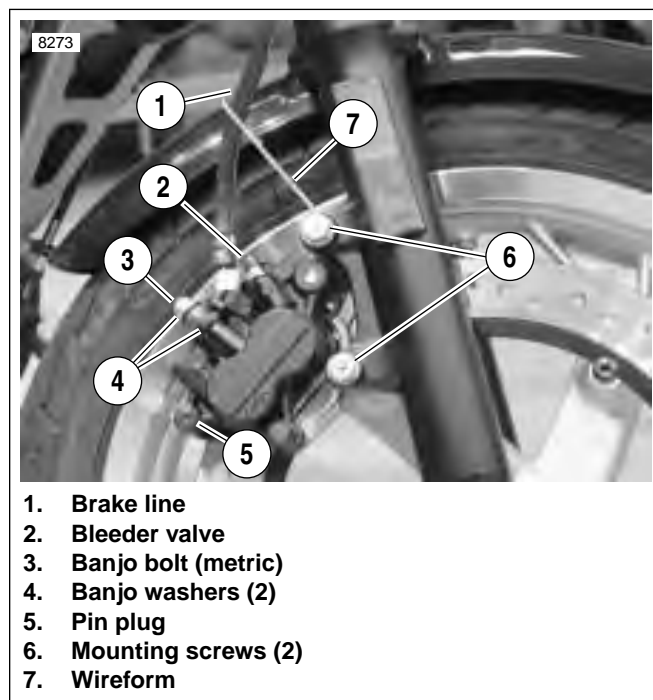

Figure 2-4. Front Brake Caliper
- a. See Figure 2-4. Remove pin plug (4).
4. See Figure 2-4. Detach caliper from mounts.
- a. Remove lower mounting screw (6).
- b. Remove upper mounting screw (6) and brakeline wireform (7) while supporting caliper above brake rotor.